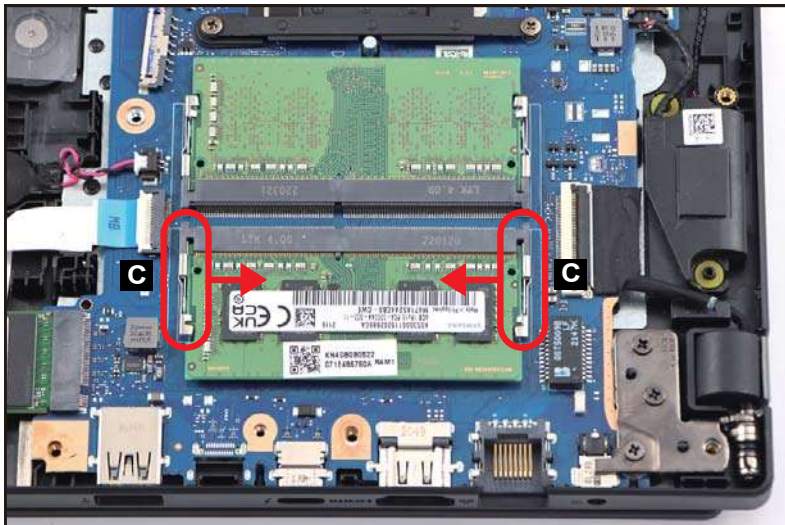

Figure 3-115. Replacing the DIMM Modules
2. Press down on the DIMM module until the module clips (C) lock into position as shown in Figure 3-115.